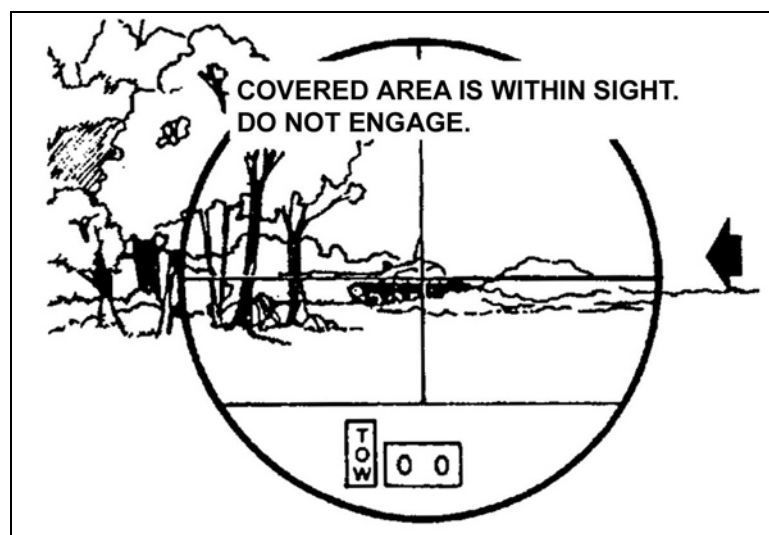

Figure 6-42. Obscured target.
b. The gunner uses the sight to determine if the target is engageable (Figure 6-42). He places the crosshairs on center mass of the target. On high magnification, if the area between the vertical crosshair and the edge of the sight is clear of obstructions in the direction of travel, then the target is engageable.